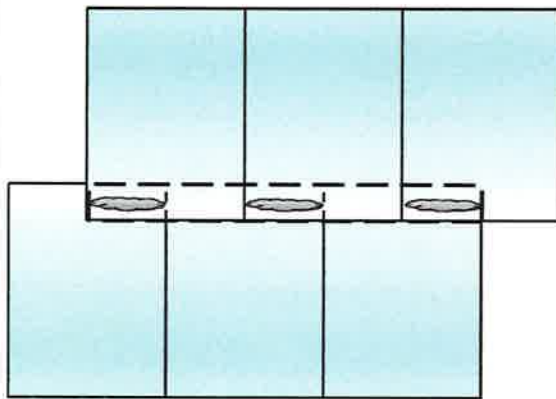
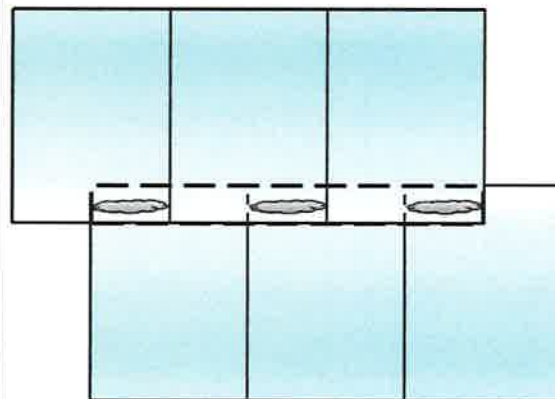

Figure 1. Adhesive Paddy Location-
Figure 2. Alternate Adhesive Paddy Location-
Attachment:	All tiles shall be secured into the factory located fastener holes by two (2) #8 x min. 3-inch Simpson Strong-Tie Quik Drive WSCD Roof Tile Screws with sufficient length to penetrate through the plywood deck a minimum 1/2-inch. A minimum 6-inch x1-inch x 1-inch paddy of Dow TILE BOND™ shall be placed atop any fasteners within the 3-inch head lap of the "bottom" tiles as shown in Figure 1 or Figure 2. The "upper" tiles shall be set immediately into the adhesive paddy. All penetrations in the underlayment shall be sealed in accordance with RAS 118 (HVHZ) and FRSA/TRI Florida High Wind Concrete and Clay Roof Tile Installation Manual , Fifth Edition Revised (non-HVHZ).